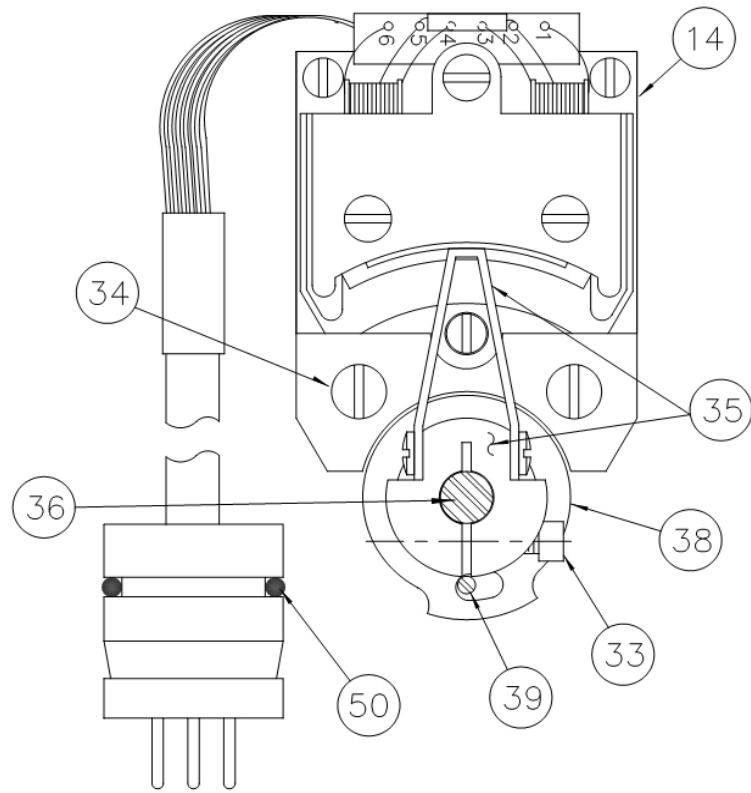

Fig. 4
- b. Loosen cap screw item [33] clamping arm item [35] to the bob shaft and remove (2) pan head screws item [34] (Fig. 4).
- a. Remove (4) screws item [31] and gently pry stem section of the transducer mount item [17] from head cap item [16].
- a. Fit the transducer arm item [35] over the top of the bob shaft. After securing transducer assembly item [14] lightly to transducer mount with screws items [34], position arm as shown in Fig. 4.
- c. When alignment is correct, tighten screw item [33] and screws item [34] firmly, then recheck for free movement of arm item [35]. Limiter cam item [38] should be in the position shown in Fig. 4 with respect to stop pin item [39]. Limiter cam item [38] should not be touching stop pin item [39] but should be very close.
17. Slip torsion spring assembly item [58] into place and tighten set screws item [27]. Twist Zeroing Sleeve item [30] so that limiter cam item [38] and pin item [39] are in position shown in Fig. 4. Cam should be close to but not touching pin.
20. Assemble terminal cap item [21] on top of head cap making sure the "O" Ring at the bottom of the cap, item [52], is in good condition. Install and alternately tighten six item 18 socket head screws.
- E. TORQUE TRANSDUCER REPLACEMENT - (Refer to Figs. 4 and 5).